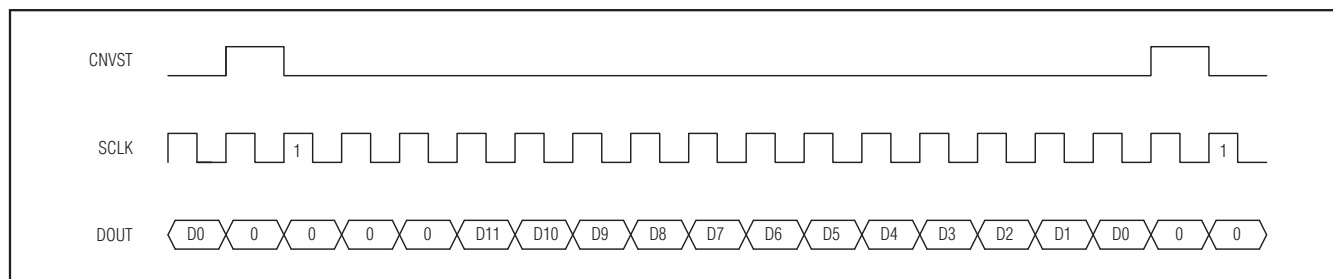

Figure 17. DSP Interface—Continuous Conversion
The MAX1277/MAX1279 can also be connected to the TMS320C54_ by using the data transmit (DX) pin to drive CNVST and the CLKX generated internally to drive SCLK. A pullup resistor is required on the CNVST signal to keep it high when DX goes high impedance and 0001hex should be written to the DXR continuously for continuous conversions. The power-down modes may be entered by writing 00FFhex to the DXR (see Figures 17 and 18).
ters should be configured for late framing (LAFR = 1) and for an active-low frame (LTFS = 1, LRFS = 1) signal. This is also the best way to enter the power-down modes by setting the word length to 8 bits (SLEN = 1001). Connect the V_L pin to the ADSP21_ _ _ supply voltage when the MAX1277/MAX1279 are operating with a supply voltage higher than the DSP supply voltage (see Figures 17 and 18).